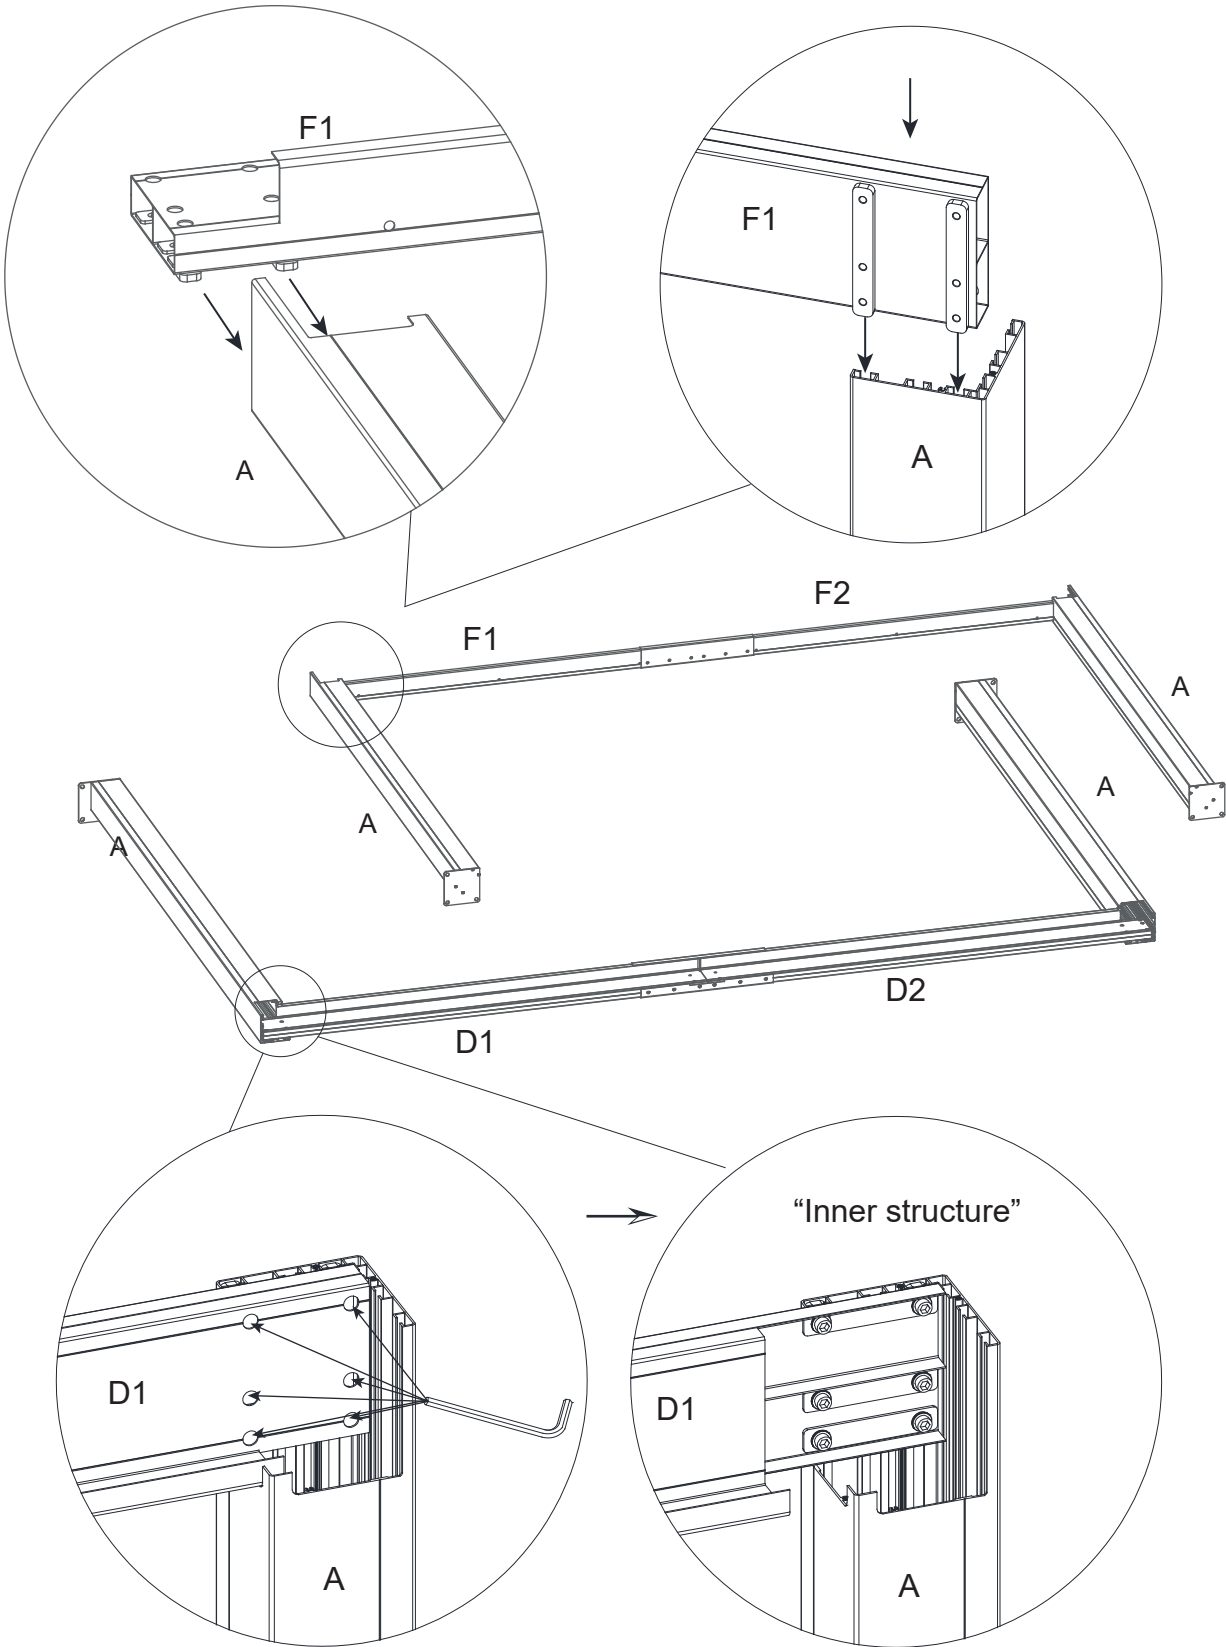

Figure 4
4. Slide both ends of the Lintel (D1/D2/F1/F2) into the built-in guide of the Corner Post (A), then tighten the bolts in the Lintel (D1/D2/F1/F2) by using Wrench .See Figure 4.